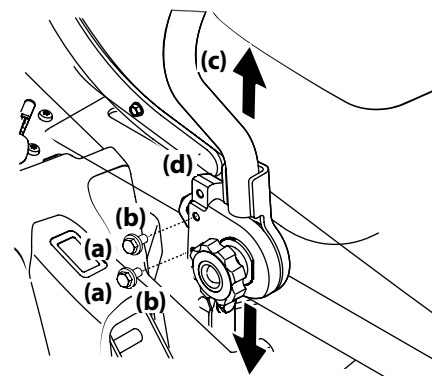

Figure 4-4
- Remove the hex screws (a) and flat washers (b) securing the drive control lever (c) to the lower arm assembly (d). Refer to Figure 4-4.